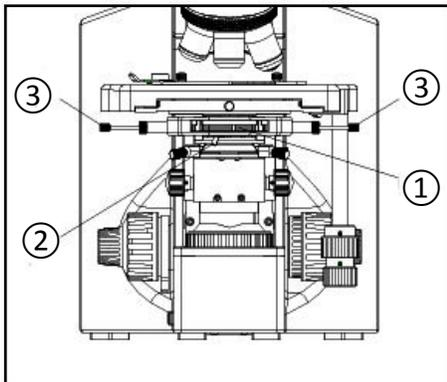

Fig. 28
Assembling & Operating Turret Phase Contrast Condenser– (Fig. 28)
For brightfield observation, turn the condenser turret (1) to “BF” position. Detents provide “click stops” when the condenser turret (1) has reached a position for observation (a diaphragm or BF position is centered in the optical path (see Fig. 28).
Centering the Phase Annulus – (Fig. 28 & 29)
- (1) Rotate the 10X phase contrast objective into the light path, then rotate the condenser turret (1) to the 10X position.
- (2) Turn the aperture diaphragm lever (2) all the way to the left (most open). **Always keep the aperture diaphragm fully open for phase contrast observation.**
- (3) Place a specimen on the stage and focus.
- (4) Remove one observation eyepiece and place a centering telescope (CT) into the empty eye tube. Ensure that the CT is in the eye tube without a diopter adjustment.
- (5) Loosen the lock screw of the centering telescope, slide the telescope tube up and down until the image of the phase annulus (4) (halo) and phase ring (5) are clear and in focus. Lock the screw to hold the position. (See Fig. 28 & 29)